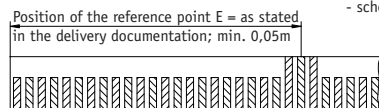

Fig. 6: Definition of the counting direction with magnetic strip and assemblage sensor/magnetic ring, gap measure, tolerances
- Provide for a relief groove in the solid shaft (see fig. 6).
- **Observe the correct alignment with regard to the counting direction** (fig. 6 and 7). This does not apply if the counting direction can be reversed in the electronic interpretation (e.g. in SIKO's magnetic-strip displays).